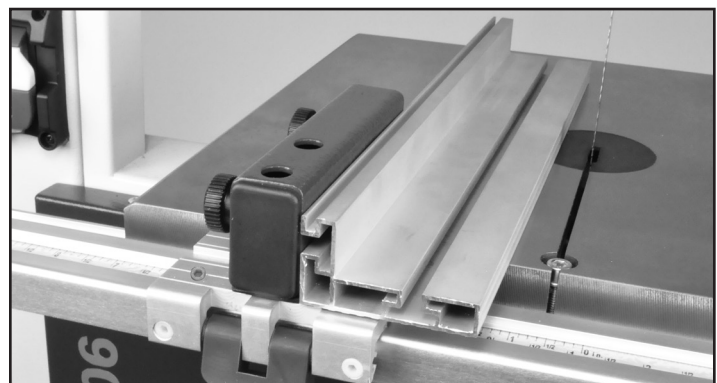

FIGURE 33
- Rotate the fence 180°, turn it down to its horizontal position and slide it back onto the carrier. The short face of the fence is slotted to mount on the frame bar. FIG. 33.